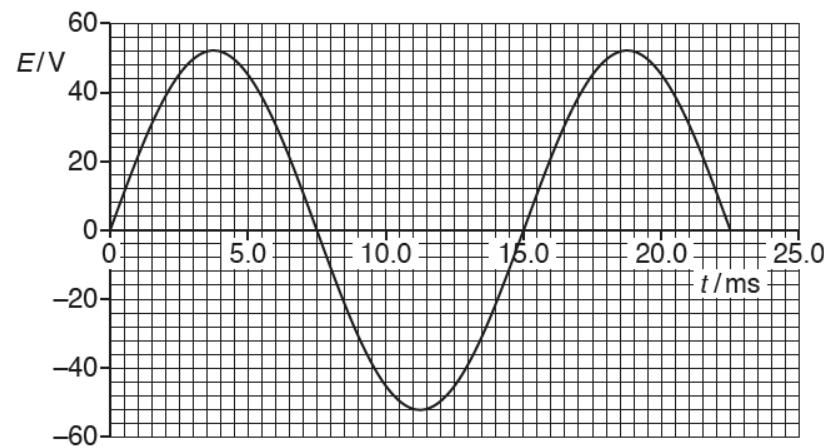

Fig. 6.2
- (b) An alternating voltage of peak value 150 V is applied across the 1200 turns of the primary coil. The variation with time  $t$  of the e.m.f.  $E$  induced across the secondary coil is shown in Fig. 6.2.
Use the data from Fig. 6.2 to
- (c) A resistor is connected between the output terminals of the secondary coil. The mean power dissipated in the resistor is 1.2 W. It may be assumed that the varying voltage across the resistor is equal to the varying e.m.f.  $E$  shown in Fig. 6.2.